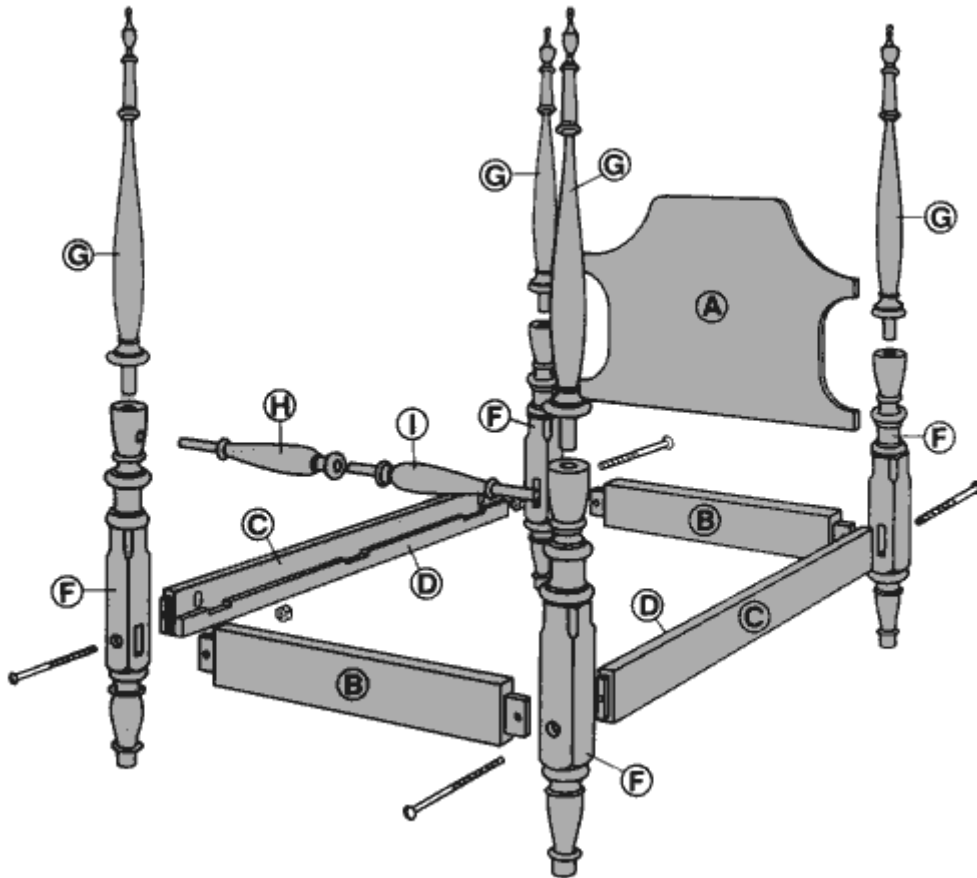

FIGURE 7
1: Using a portable drill, create 3/4" deep counterbores for the heads of your 3/8" x 6" assembly bolts in the bottoms (flat sections) of the Posts (F). Be sure these counterbores are a large enough diameter to accommodate the flat washers under the heads of your 6" long assembly bolts. Then, dry assemble the Head and Foot Rails (B) to the Posts (F). Use long bar or pipe clamps to hold the rails in position while you bore 3/8" diameter holes all the way through the four Posts (F) and the tenons in each end of the two Rails (B). (See Fig. 7)
3: Glue the Side Rail Cleats (D) to the inside bottom of the Side Rails (C). For extra strength, add six 1-1/2" long #8 roundhead wood screws, spaced evenly along the length of each Cleat. (See Fig. 7)
5: Glue the Blanket Rail (H & I) and the Foot Rail (B) to the Footboard Posts (F), (See Fig. 7)
7: Attach the Side Rails (C) to the Headboard and Footboard assemblies with the 6" bolts and nuts. Drop the slats into the notches you formed in the Side Rail Cleats (D). (See Fig. 7) Cover the bolt heads with decorative hardware.